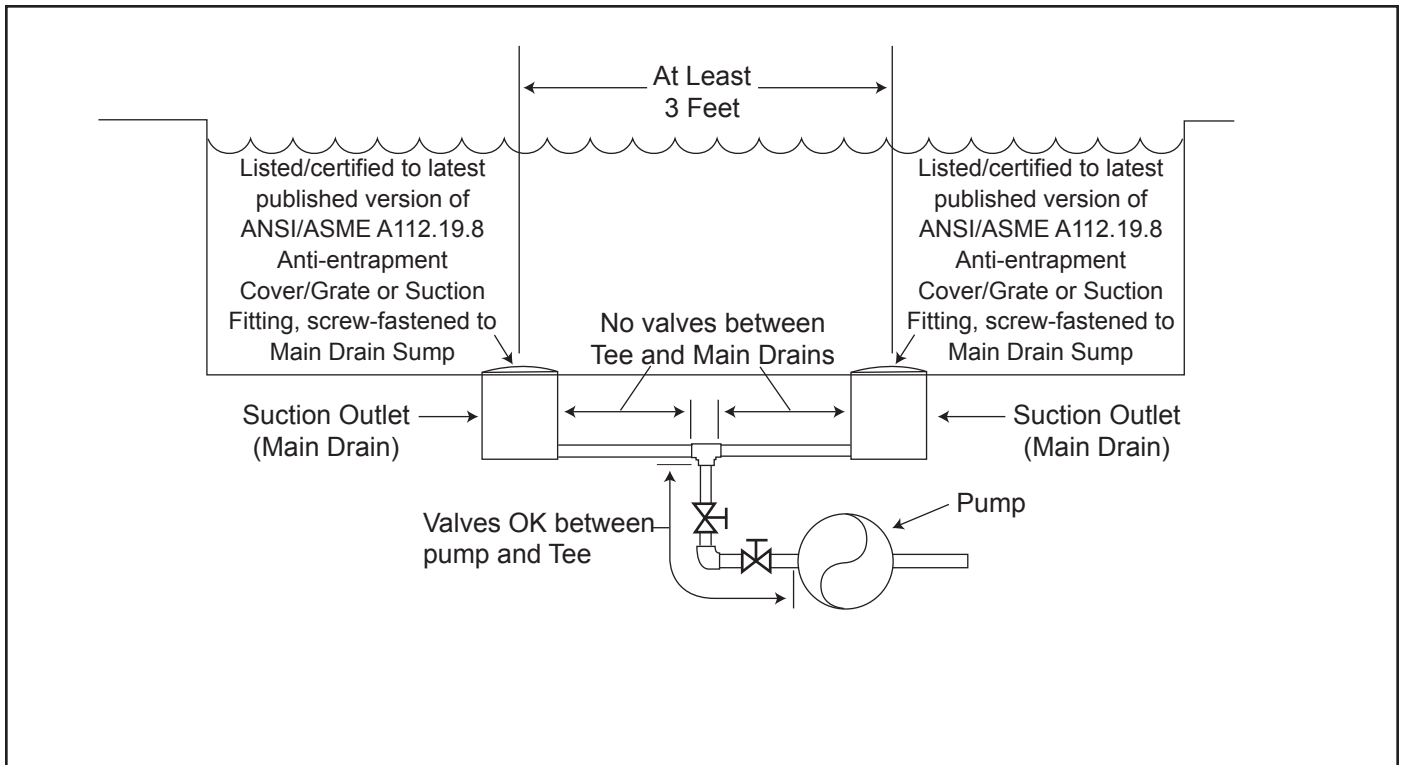

Figure 1. Number of Suction Outlets Per Pump
Number of Suction Outlets Per Pump - Provide at least two (2) main drains, with covers, as suction outlets for each circulating pump suction line. The centers of the main drains (suction outlets) on any one (1) suction line must be at least 3 feet apart, center to center. See Figure 1 on page 7. For additional details and guidelines, refer to ANSI/APSP 7, the standard for *Suction Entrapment Avoidance in Swimming Pools, Wading Pools, Spas, Hot Tubs, and Catch Basins*.
The system **must** be built to include at least two (2) suction outlets (drains) connected to the pump whenever the pump is running. However, if two (2) main drains run into a single suction line, the single suction line may be equipped with a valve that will shut off both main drains from the pump. The system shall be constructed such that it shall not allow for separate or independent shutoff or isolation of each drain. See Figure 1 on page 7.